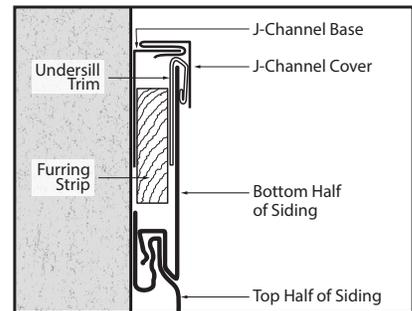

Figure 5.3.1
- If a partial piece of Perspectives is needed to finish the wall, install a ½"x1" Furring Strip and Undersill Trim into the Corner Base pocket or on top of the 2-Piece J-Channel Base. (Figure 5.3.1)
- Install Perspectives planks from left-to-right or right-to-left. If a partial piece of Perspectives is needed to finish the wall, install a ½"x1" Furring Strip and Undersill Trim into the Corner Base pocket or left/right-hand 2-Piece J-Channel pocket. (Figure 5.3.1)